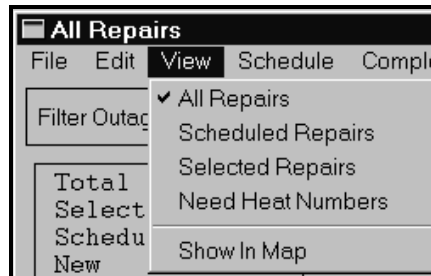

Figure 3-127. All Repairs > View Menu
There are five (5) choices on the View Menu shown in Figure 3-127. They are All Repairs, Scheduled Repairs, Selected Repairs, Need Heat Numbers, and Show In Map.